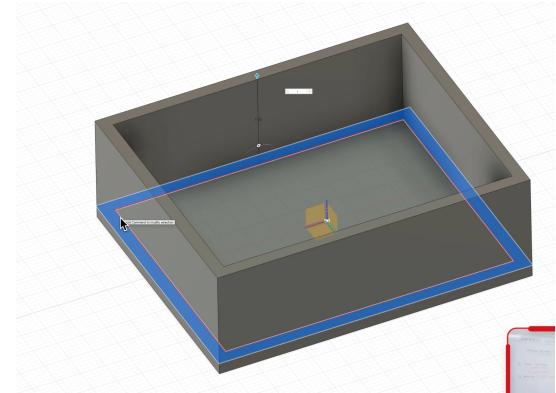

Figure 1.2
- **Reminder:** There's more than one way to do things in CAD. So instead of using Shell, you could sketch an offset from the base and extrude upward to form the walls manually (see Figure 1.2).